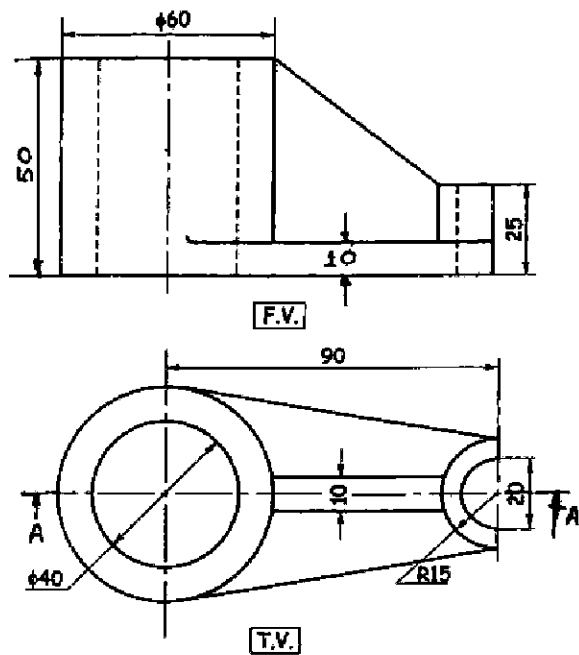

Figure 7
9. The figure 7 shows FV and TV of a machine part. Draw